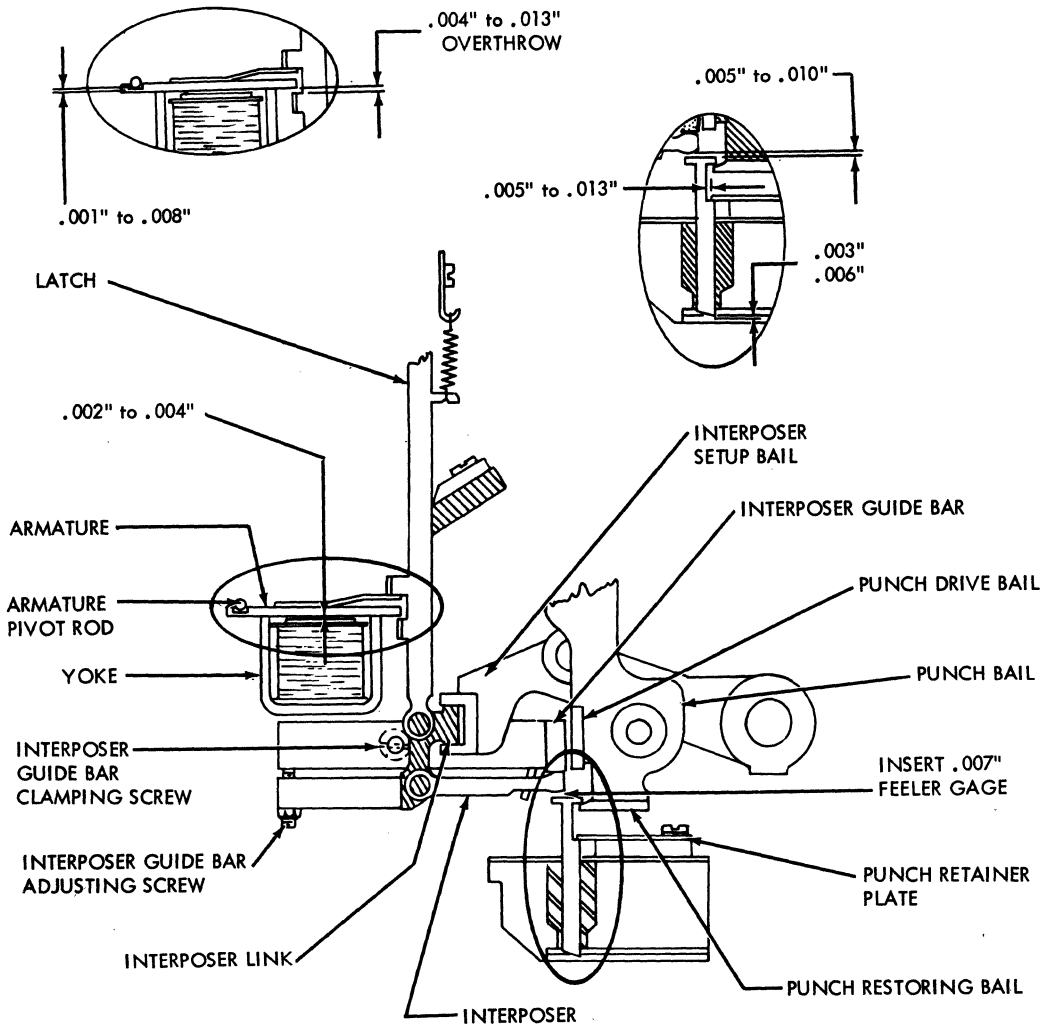

Figure 3-34. Punch Unit Adjustments
3. Remove latch spring. See Figure 3-34.
- a. With the punch magnet de-energized, insert .007" feeler gage between punch and interposer. See Figure 3-34.
- a. Slightly loosen interposer guide bar clamping screws. See Figure 3-34.
- Remove latch spring from latch. See Figure 3-34.
- Push down on latch and unhook interposer link. See Figure 3-34.
- a. Provide .002" to .004" clearance between armatures and cores. See Figure 3-34.
- b. Check armature-to-pivot rod clearance. Set clearance between perceptible minimum movement to a maximum of .008" with operating end of armature held against yoke. See Figure 3-34.
3. Check .004" to .013" clearance between lower side of armature and latch at both column-1 and column-80 ends of unit. See Figure 3-34.
- b. Loosen magnet unit adjusting lock nuts and adjust screws for .004" to .013" clearance between armature and latch. See Figure 3-34.
3. Carefully place drive unit on magnet unit so all 80 interposer links fit into interposer setup bail. See Figure 3-34.
- a. Check .004" to .013" latch overthrow. See Figure 3-34.
- b. Check .005" to .010" interposer to punch clearance. See Figure 3-34.
3. Remove retainer plate from stripper assembly. See Figure 3-34.
- a. Check for .005" to .013" punch-to-retainer-plate clearance before re-assembling stripper to punch unit. See Figure 3-34.
- b. Check for .005" to .010" interposer-to-punch clearance. See Figure 3-34.
2. Check that toes of punches retract .003" to .006" into stripper. See Figure 3-34. Adjust by adding or removing shims 437964 between the stripper assembly and punch unit side frame. (Shim 437964 is .003" thick.)
3. Adjust retainer plate for .005" to .013" clearance between plate and punches. See Figure 3-34.